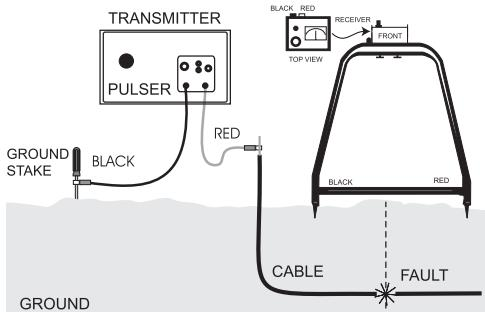

Figure 4. Nulling Receiver - First Time
7. While probing the path, a reversal in the receiver meter, a "black" kick, will be observed when the fault is passed. To determine the exact location, move the "A" Frame in the direction of the black kick until the kick reverses to red. (See Figure 3.) Now move the "A" Frame in small increments back to the red kick until it reverses to a black kick or it nulls. (See Figure 4.)
*Note: Receiver will null when probes evenly straddle the fault. Mark this spot. (See Figures 4 and 5.)*